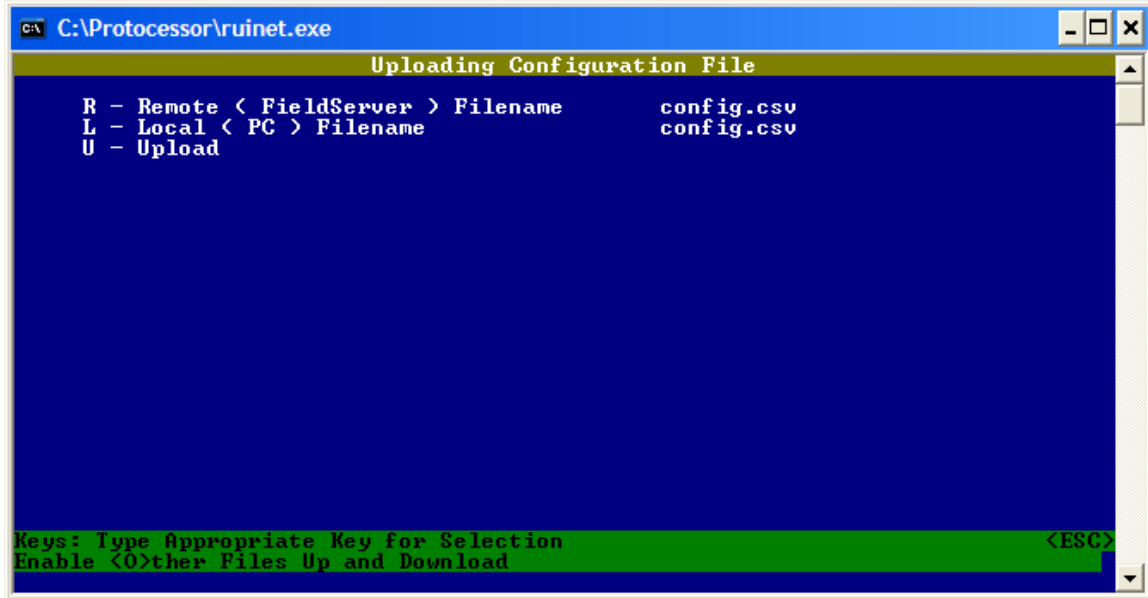
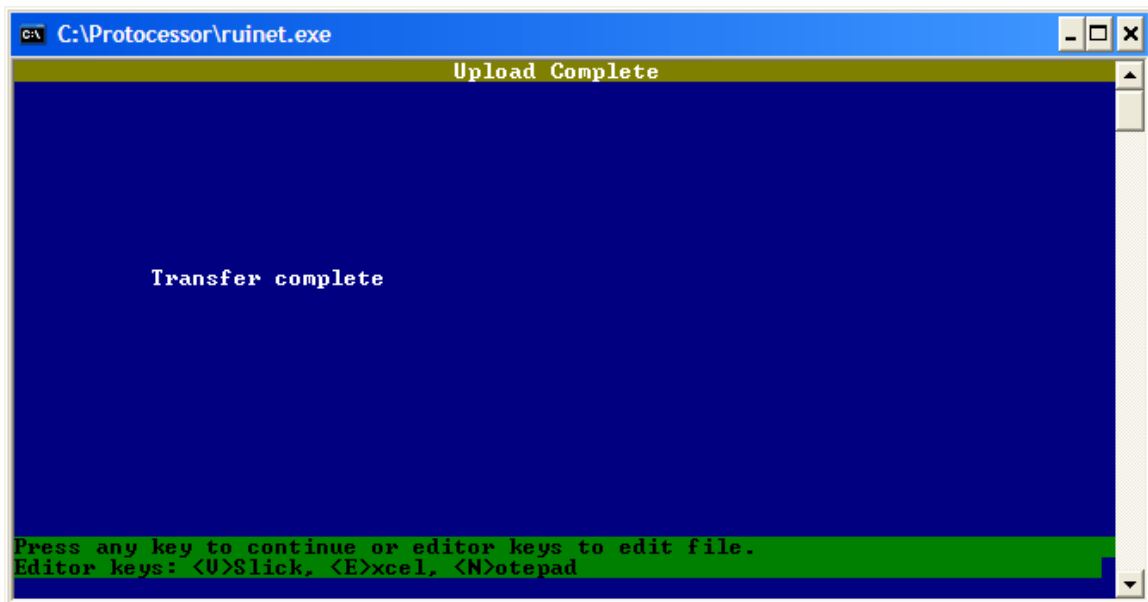

Figure 5: RUINET - Upload Screen
Figure 6: RUINET - Upload Complete Screen
- 2) Press the 'U' key to choose (U)pload Configuration (see Figure 5). Press 'U' again to begin the upload. This uploads the ProtoCessor configuration file (*config.csv*) to the computer from the ProtoCessor. When the upload is complete (see Figure 6), press 'N' to choose (N)otepad. This will open the configuration file in NotePad for editing. Other basic text editors can be used, but the file is already formatted for use in NotePad. **DO NOT EDIT THE FILE WITH EXCEL, IT WILL ADD EXTRA FORMATING AND CORRUPT THE FILE.**